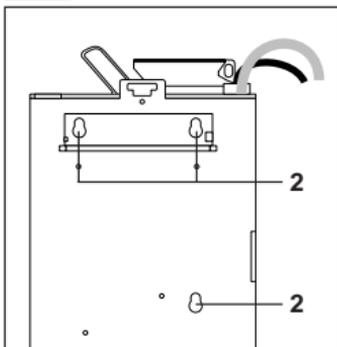

Fig. 4b: Hanging up the G-46.F4000
- 2 Hang the changer in the vending machine using the three mounting holes 2 on the back wall (see Fig. 4b).